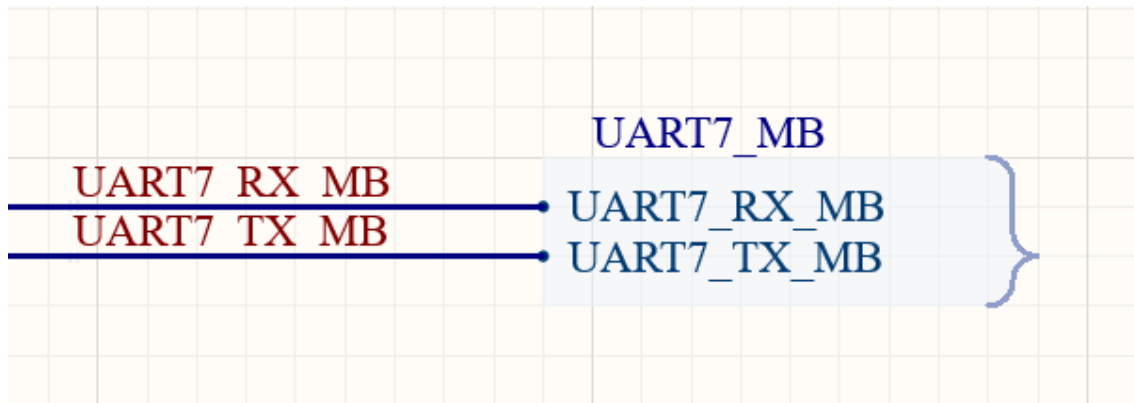

Figure 8. UART7_MB Harness Connector with two Entries
21. Left-click and drag the Harness Connector so that the Harness Entries are connected and aligned to their respective wires, Figure 8.